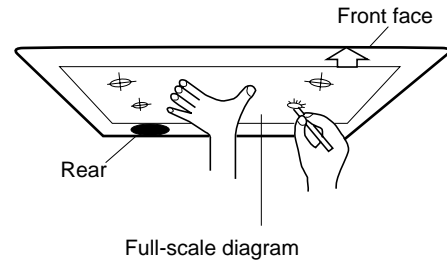

Fig. 3-55
- (1) Place the full-scale diagram (supplied) on the ceiling at the spot where you want to install the indoor unit. Use a pencil to mark the drill holes. (Fig. 3-55).